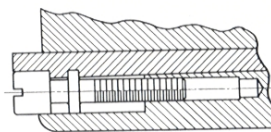

Figure 25
2. Turn the adjusting screw (Fig. 25) to tighten the gib. Try movement of the unit by hand. Alternately tighten the screw and try by hand until unit is fairly tight, back screw away two turns, and then advance one turn.